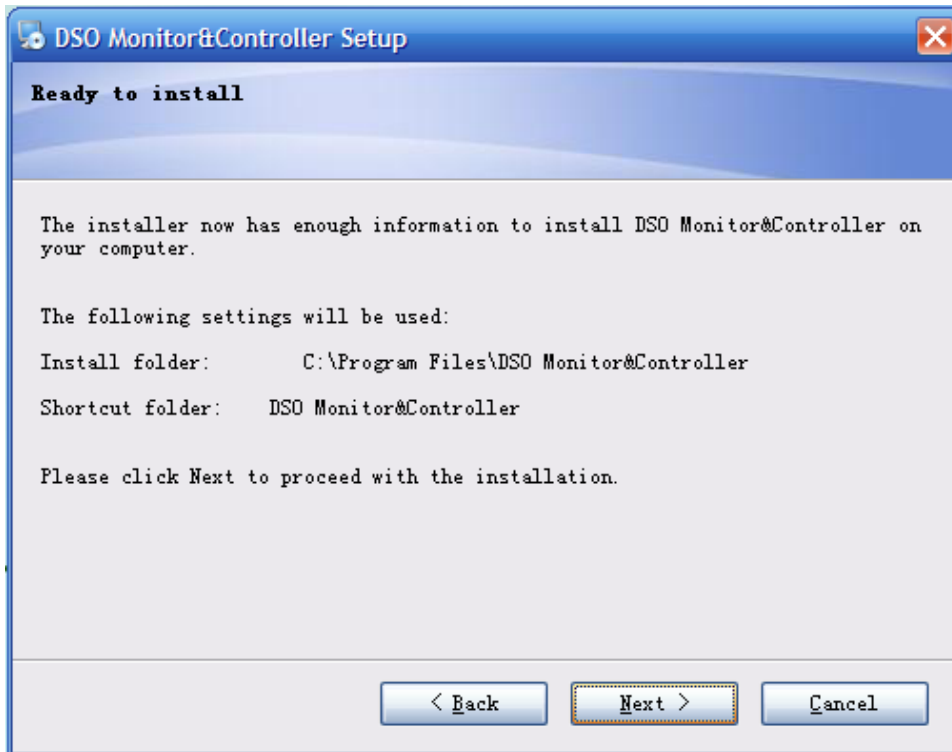
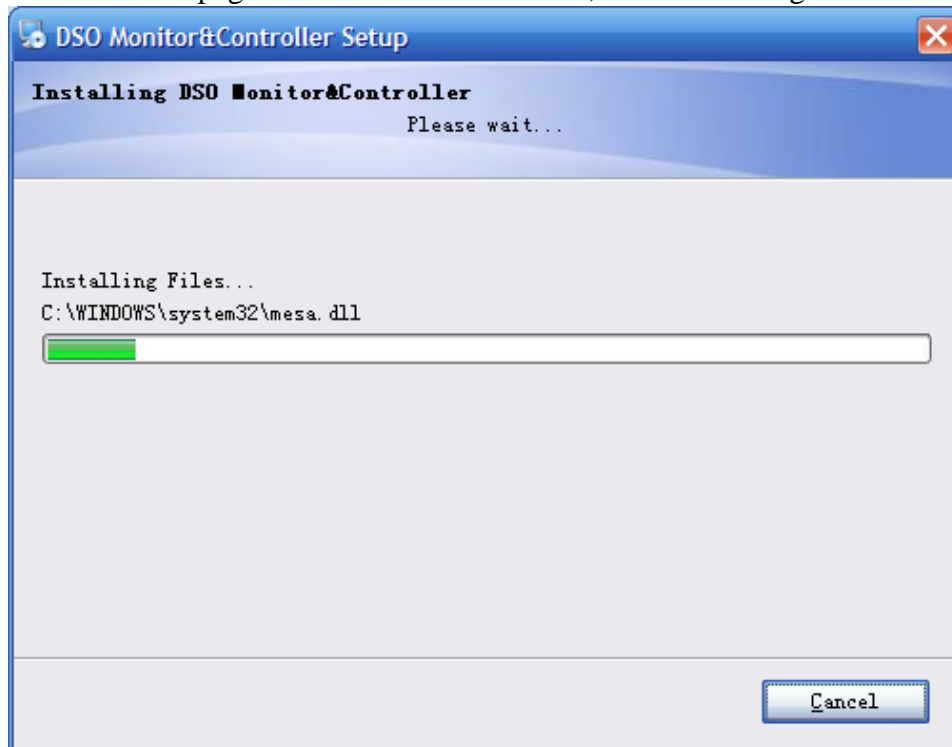

Figure 1-5
Figure 1-6
path of the software, then click NEXT. You can also click NEXT directly to use the default path. Enter the screen shown in Figure 1-5.
Step six : In Figure 1-5, after checking that the message is correct, click NEXT (N) to enter the page for automatic installation, as shown in Figure 1-6.